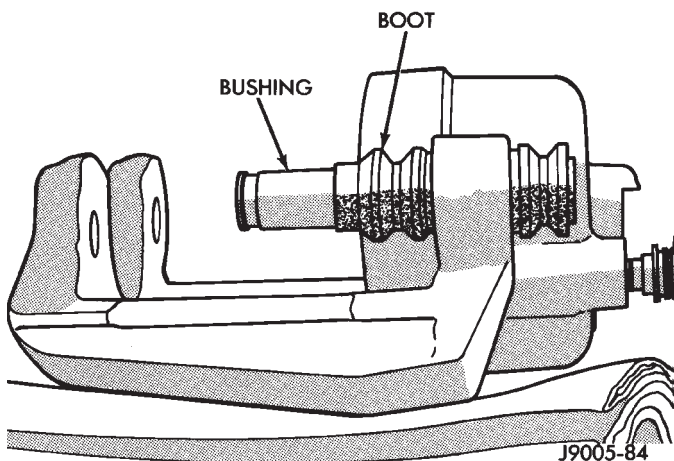

Fig. 69 Bushings And Boots Installation
(3) Install bushing boots in caliper, then insert bushing into boot and push bushing into place (Fig. 69).